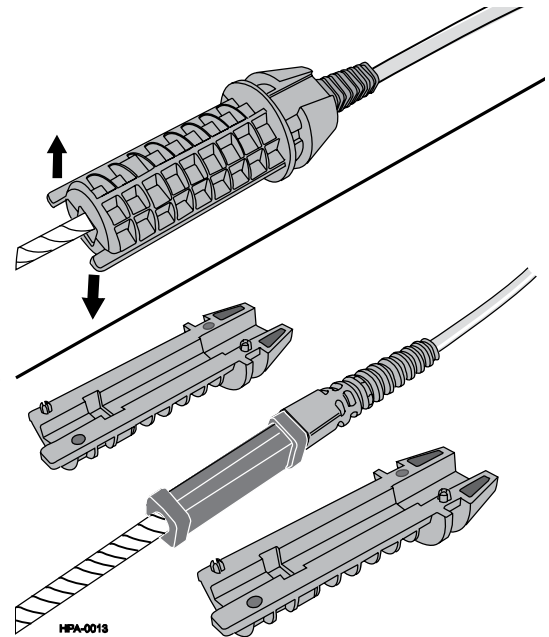

Figure 9 — Remove Coupler Halves
- Step 7: Remove the coupler halves from the trunk furcation body and dispose of the coupler assembly (Figure 9).